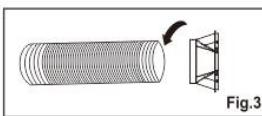

Fig.3
2. Extend the other side of the hose and screw it to the hose outlet (Fig.3).